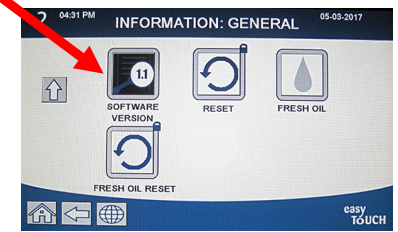

Figure 17
5. Press the software version button (see Figure 17).